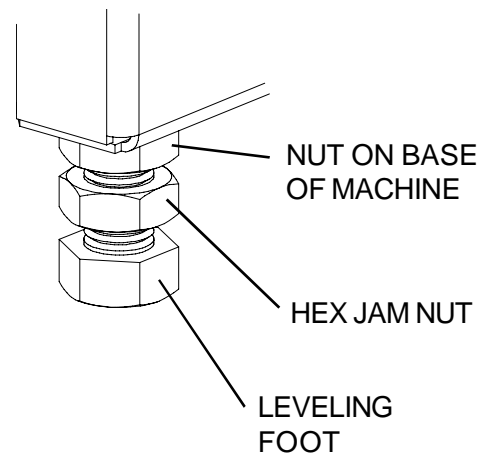

FIG. 2
2. The Grinder's four leveling feet (FIG. 2) are seated in countersunk holes in the pallet. With a fork lift or other power equipment, raise the grinder from the wood base and set it in its final position. Lift under bottom tray, forks must reach to the rear of the machine and extend past or the Grinder may be damaged while lifting.
Recheck the level in both directions. When satisfactory, tighten the hex jam nuts on the leveling feet securely against the nuts welded to the bottom of the base. See FIG. 2. Don't turn the leveling feet when tightening.